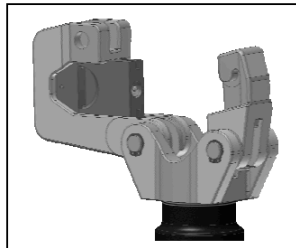

Fig. 2
6. Put the two posts of the cutting tool in the cross-head (Fig. 2)